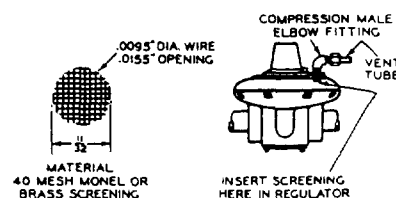

FIG. 11—Flame Check
3. Connect vent tube from gas pressure regulator to union leading to vent tube tip on pilot bracket. Be sure flame check is in place as shown in Fig. 11.